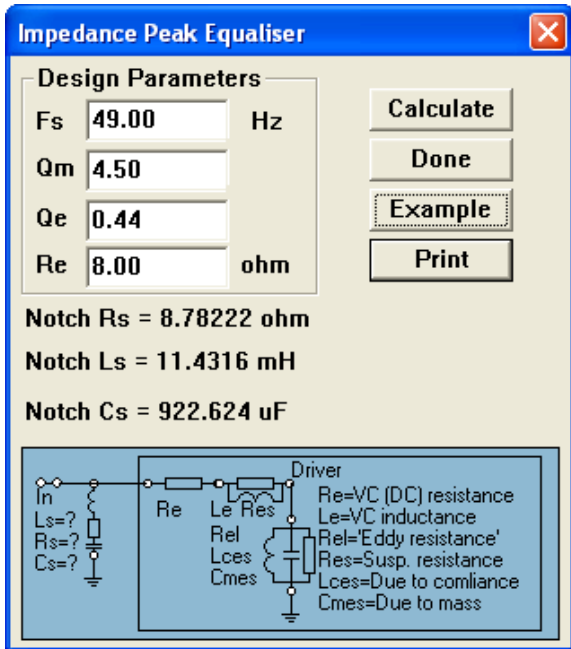

Figure 8.27. Impedance Peak Equalizer
3. Impedance Peak Equaliser (see Fig 8.27)